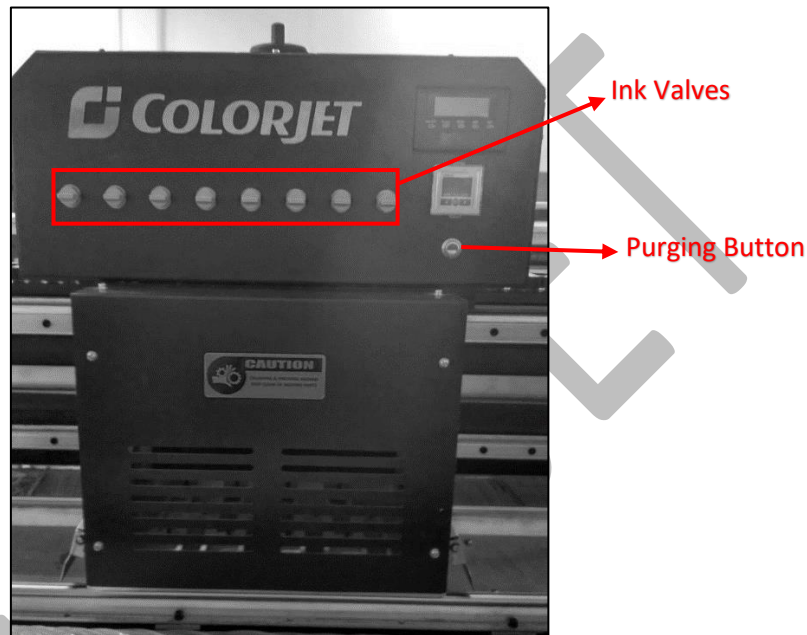

Fig 48: Performing Purging
Step 1: Switch ON the Ink Valve of a color in which user wants to perform purging (Refer to Fig 48) and switch OFF the rest color Ink Valves.